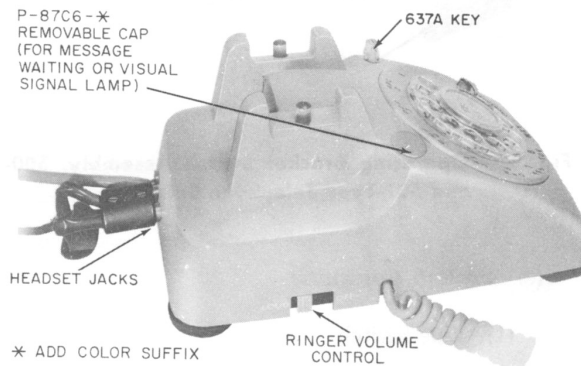

Fig. 18—514B Telephone Set
- (1) Remove housing from set.
- (2) Remove cap (Fig. 18) from housing by removing screw and clamp located inside housing assembly, discard cap.